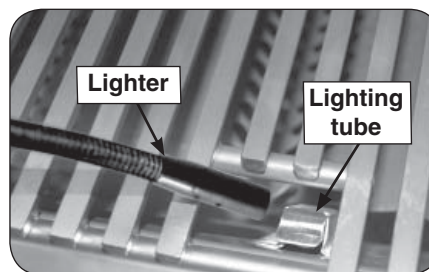

Fig. 23-2 - Manual lighting
2. Insert either a burning long-barrel butane lighter or a burning long-stem match through the cooking grid opening to the top of the lighting tube (Fig. 23-2). For backburners, hold the flame against the surface of the backburner.
4. If the burner does not light within five (5) seconds of turning the control knob, **immediately depress the knob and turn the valve to OFF**. **WAIT FIVE (5) MINUTES** before repeating steps 2 through 4 of the MANUAL LIGHTING instructions.